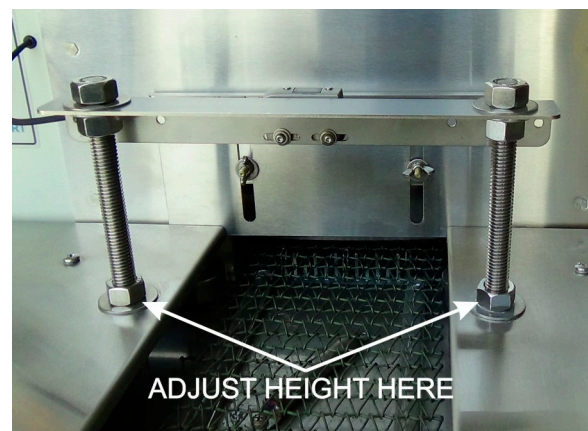

Figure 2-24 Adjust SENSLAS bracket height
2. Level bracket by loosening and tightening nuts above and below Unload Station table (see Figure 2-24).